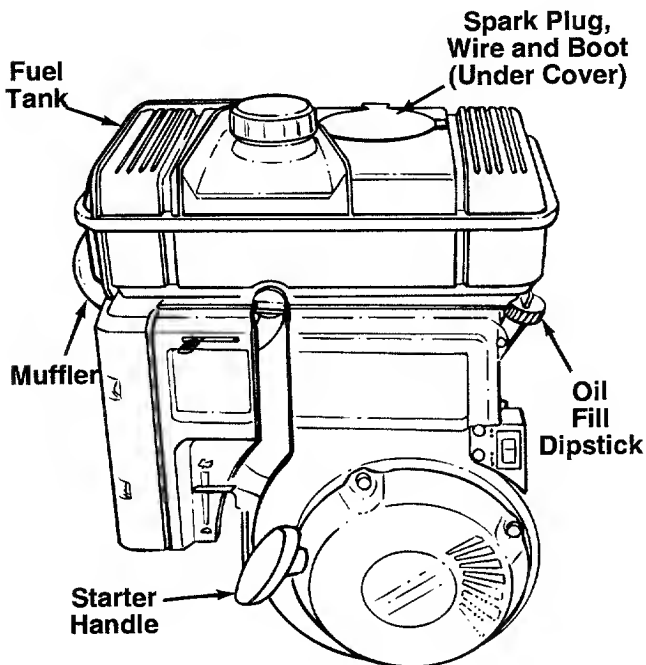

FIGURE 9.
- Open cover (on top of fuel tank) and attach spark plug wire and rubber boot to spark plug if necessary. See figure 9.
- Grasp starter handle (see figure 9) and pull rope out slowly until engine reaches start of compression cycle (rope will pull slightly harder at this point). Let the rope rewind slowly.